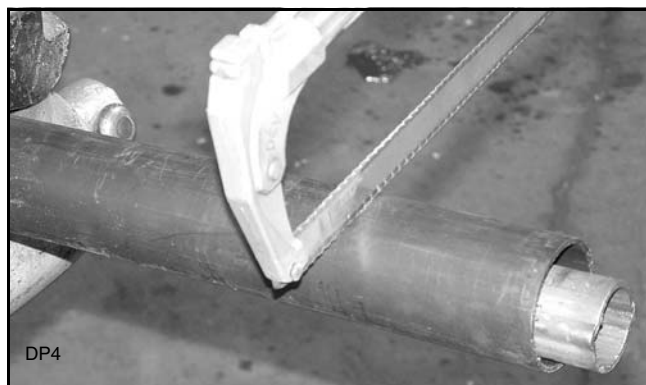

Figure 6. Cut Shield
4. Cut the shield to the overall dimension (Figure 6).